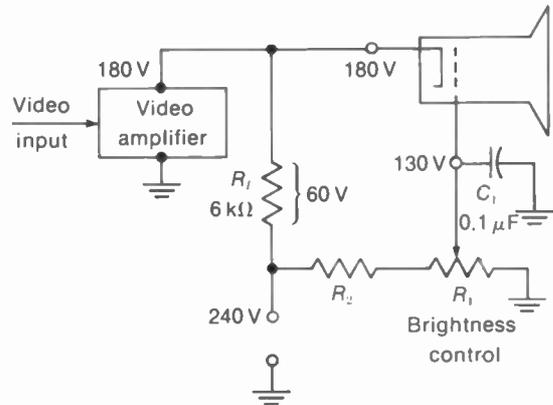

FIGURE 14-11 DC VOLTAGES FOR VIDEO AMPLIFIER DIRECTLY COUPLED TO CATHODE OF PICTURE TUBE.
The video output stage is often directly coupled to the picture tube, in order to keep the dc component. See Fig. 14-11. In this case, the dc electrode voltages for the video amplifier affect the bias for the picture tube. In fact, trouble in the video amplifier can cut off the picture tube, resulting in no brightness.
**Normal dc voltages.** In Fig. 14-11 the cathode bias for the picture is 50 V. This value is the potential difference between 180 V at the cathode and 130 V at the grid. The cathode voltage is the same 180 V as on the video amplifier because of the direct coupling. This 180 V is the result of the 60-V  $IR$  drop across  $R_L$  from the 240-V supply.
8. In Fig. 14-11, the voltage across the  $6\text{-k}\Omega$   $R_L$  is 60 V because the current through it equals 10 mA.
4. Referring to the diagram in Fig. 14-11, give the function of  $R_1$ ,  $R_2$ , and  $C_1$ .